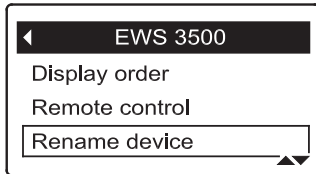

FIG. 125
3. Press the DOWN (▼) button to scroll through the menu options until **Rename device** is highlighted in a box (See Figure 125).
9. To select the next character, return to Step 7. When finished entering the device name, press the UP (▲) button to switch to the upper line, then press SELECT (○) to go back to the device menu (Figure 125).